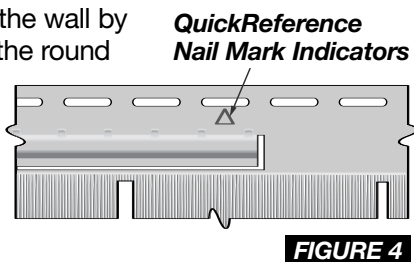

FIGURE 4
- 3) Fasten the panel to the wall by first nailing through the round center hole in the nailing hem at the top of the panel. Continue nailing the panel with 5 nails: one in the right-end nail slot and one at each of the QuickReference™ Nail Mark Indicators (figure 4). Leave 1/8" to 1/16" between the nail heads and the panel to allow freedom of movement during normal expansion and contraction.